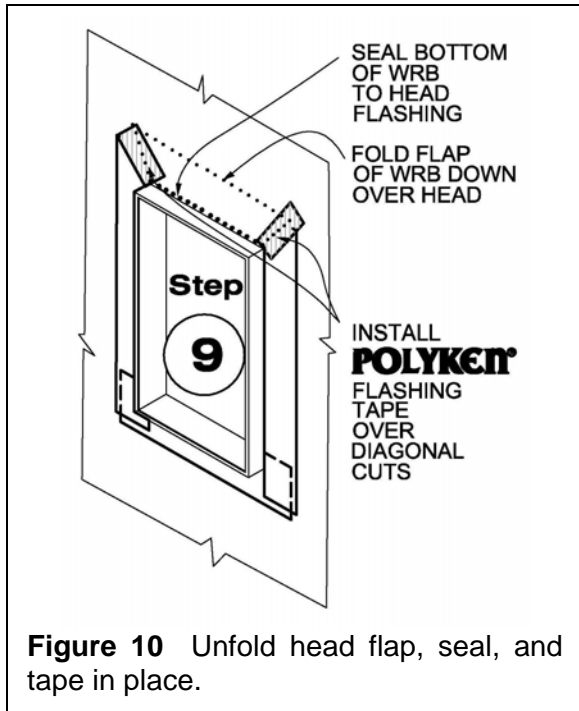

Figure 10 Unfold head flap, seal, and tape in place.
Step 9. Fold down flap of WRB at head over Polyken® or Nashua® head flashing tape. Seal bottom of WRB flap along full length of window head. Install WRB sheathing tape or Polyken® or Nashua® flashing tape over diagonal cuts (see Figure 10).